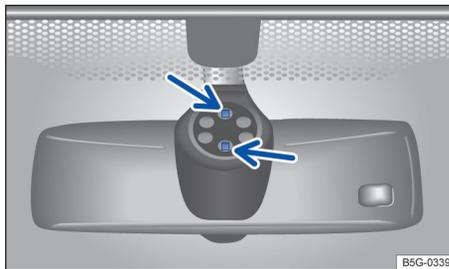

Fig. 83 Inside the front windshield above the inside mirror: Sensitive rain sensor surface (arrows).
The rain sensor may misread what is happening in the *detection zone of its sensitive rain-sensor surface* → fig. 83 (arrows) and not work for a number of reasons, which may include:
- **Dirt:** Caked-on dust, wax, any other buildup on the windshield (lotus effect), or car-wash detergent residue can lower the rain sensor's sensitivity and cause it to react too slowly or not at all. Clean the rain sensor's sensitive surface → fig. 83 (arrows) regularly and check the wiper blades for wear or damage.